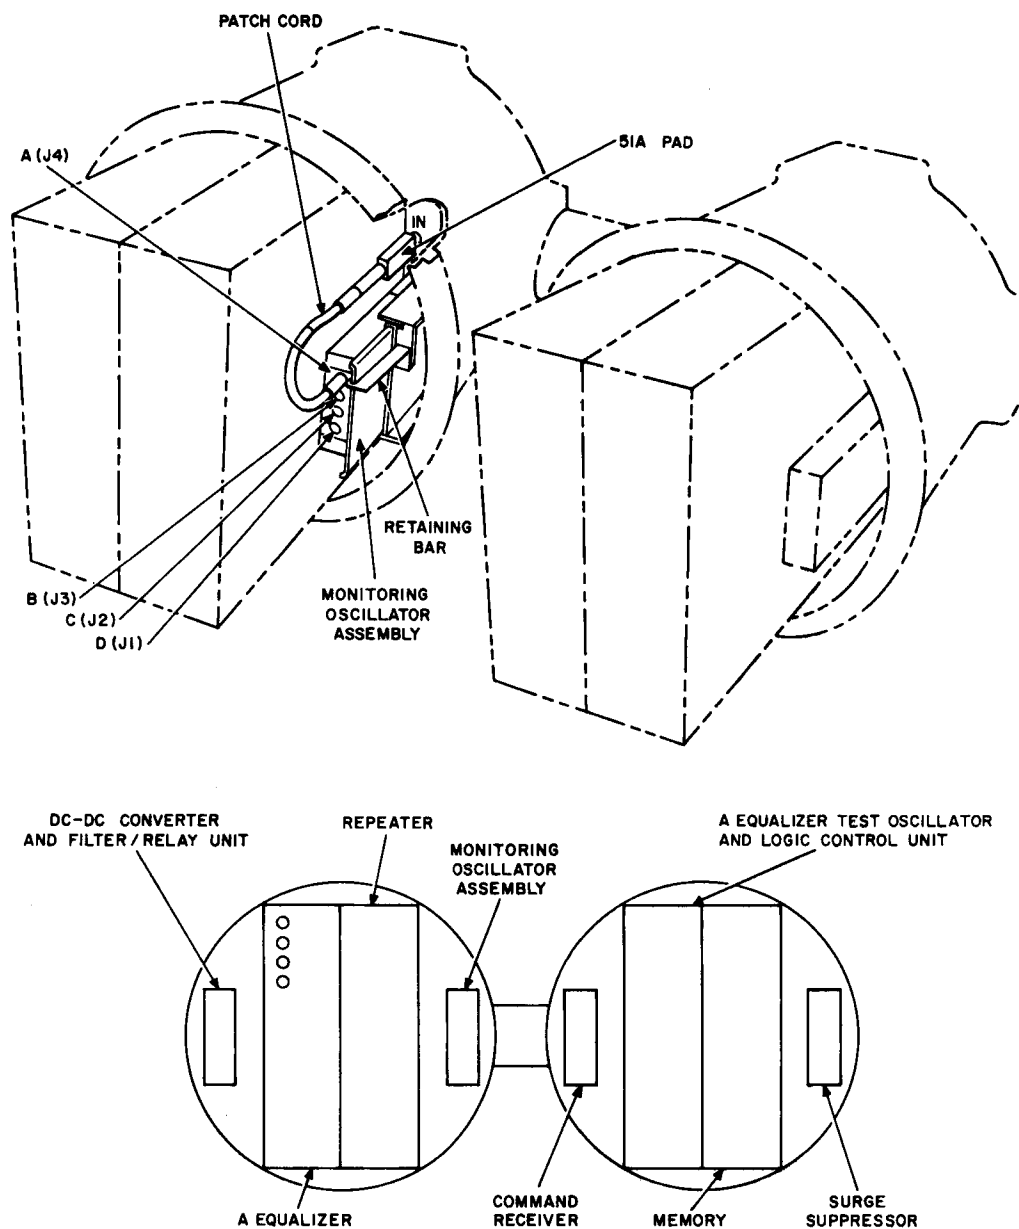

Fig. 1—Equalizing Repeater Equipment Arrangement
Note: ⚠ An equalizing repeater that includes a stepped A equalizer consists of eight plug-in equipment units housed in two connected apparatus cases (Fig. 1). An equalizing repeater that includes a manual A equalizer occupies one apparatus case.⚠
5	Remove the patch cord that connects the monitoring oscillator assembly to the 51A pad (Fig. 1).
Repeater J68877AC and A Equalizer J68877AD or J68877EJ (Fig. 1)
- 34 Remove the patch cord that connects the monitoring oscillator assembly to the 51A pad (Fig. 1).
60	Proceed to the appropriate part of this chart to remove and replace another equipment unit, or proceed to Part D of this chart. A Equalizer Memory J68877AE, A Equalizer Test Oscillator and Logic Control Unit J68877AF, Command Receiver J68877AG, and Surge Suppressor J68877AH (Fig. 1)
61	Remove the patch cord that connects the monitoring oscillator assembly to the 51A pad (Fig. 1). ⚠Warning: Choose the proper surge suppressor, as explained in the following note, to prevent serious damage to the logic control unit. Note: A List 1 surge suppressor J68877AH must be used with the List 1 through List 4 J68877AF units; a List 2 surge suppressor must be used with the List 5 and List 6 J68877AF units.⚡ Warning: Remove patch cord from the 51A pad first.